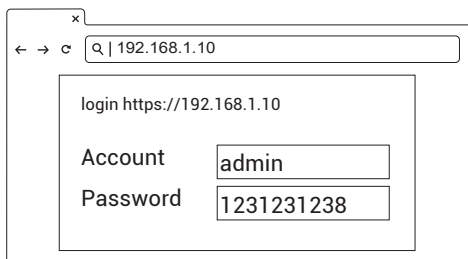

Figure 28. Login
2) See Figure 28. On the EVSE Homepage, login with the credentials that follow: